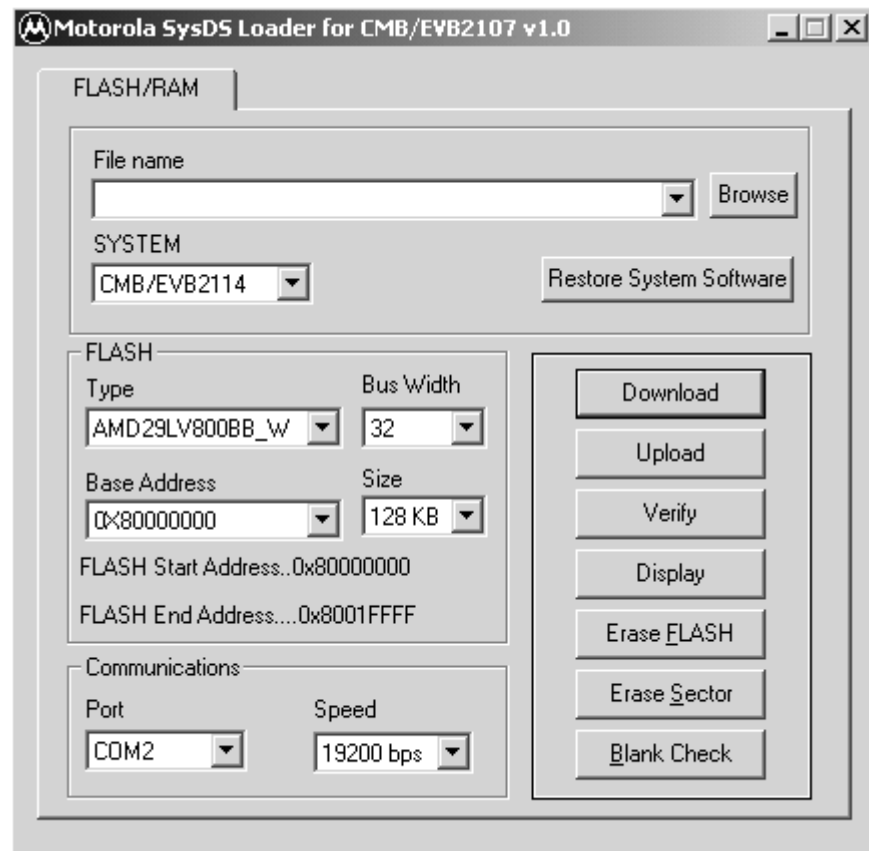

Figure 3-4 On Board SysDS Loader Version Main Screen
5. Double-click the `loader.exe` file. SysDS Loader starts and the main screen appears as shown in Figure 3-4.